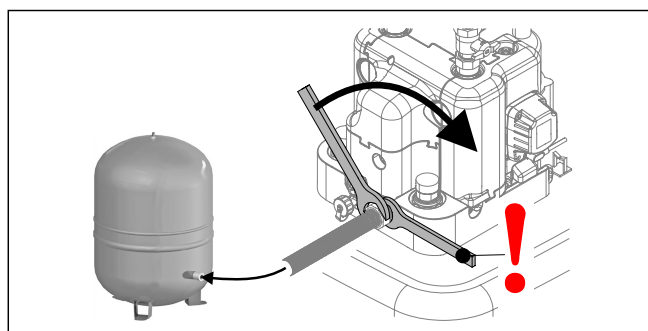

Fig. 3-33 Mounting the diaphragm expansion vessel
- 7 Connecting a diaphragm expansion vessel (see Fig. 3-33)